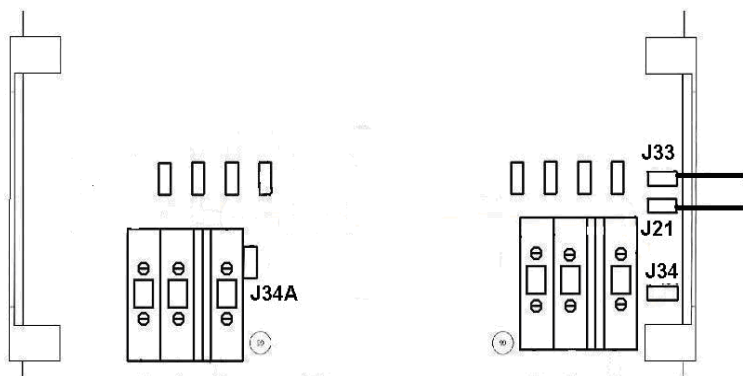

Figure 5: Output neutral grounding
2.4 Output neutral grounding (fig 5)
A Residual Current Device (RCD) or Ground Fault Circuit Interrupter (GFCI) must be installed in the output cable of the isolation transformer. For this RCD to operate correctly, the output neutral must be connected to ground (= all the metal parts in the boat). This is achieved by placing a jumper on male push-on connectors J21, J33 (see fig 5), and by grounding the enclosure of the isolation transformer.